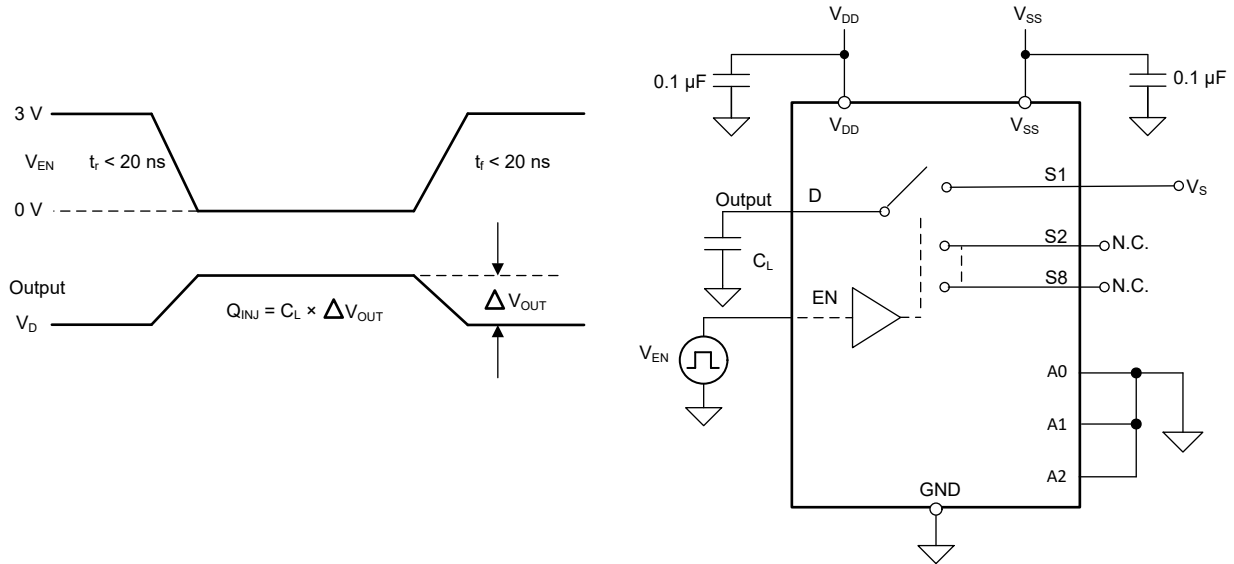

Figure 8-9. Charge-Injection Measurement Setup
The TMUX7208 and TMUX7209 have a transmission-gate topology. Any mismatch in capacitance between the NMOS and PMOS transistors results in a charge injected into the drain or source during the falling or rising edge of the gate signal. The amount of charge injected into the source or drain of the device is known as charge injection, and is denoted by the symbol Q_{INJ} . Figure 8-9 shows the setup used to measure charge injection from source (Sx) to drain (D).